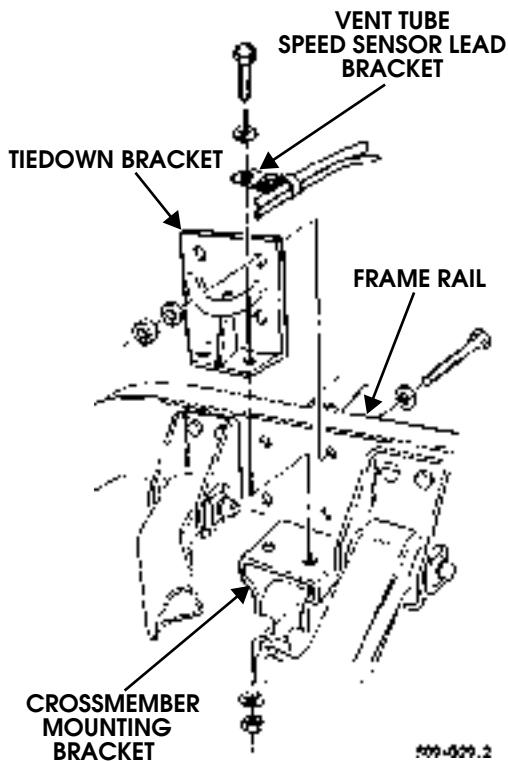

Figure 9-140: Rear-Front Tiedown Bracket Replacement
2. Remove four locknuts, washers, bolts, washers, and tiedown bracket from frame rail (Figure 9-140).
1. Install tiedown bracket and vent tube mounting bracket on rear suspension front crossmember mounting bracket with two washers, bolts, washers, and locknuts. Tighten locknuts to 90 lb-ft (122 N•m) (Figure 9-140).